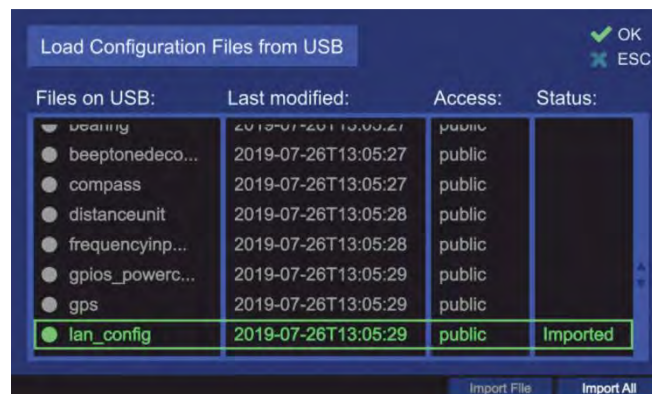

Figure 140. File imported
- o The hotkey “Import File” is only visible, if a valid configuration file is marked. Pressing this hotkey will start importing the marked configuration file from the USB flash drive. After successful import of the file, the hotkey name becomes gray (s. Figure 140).